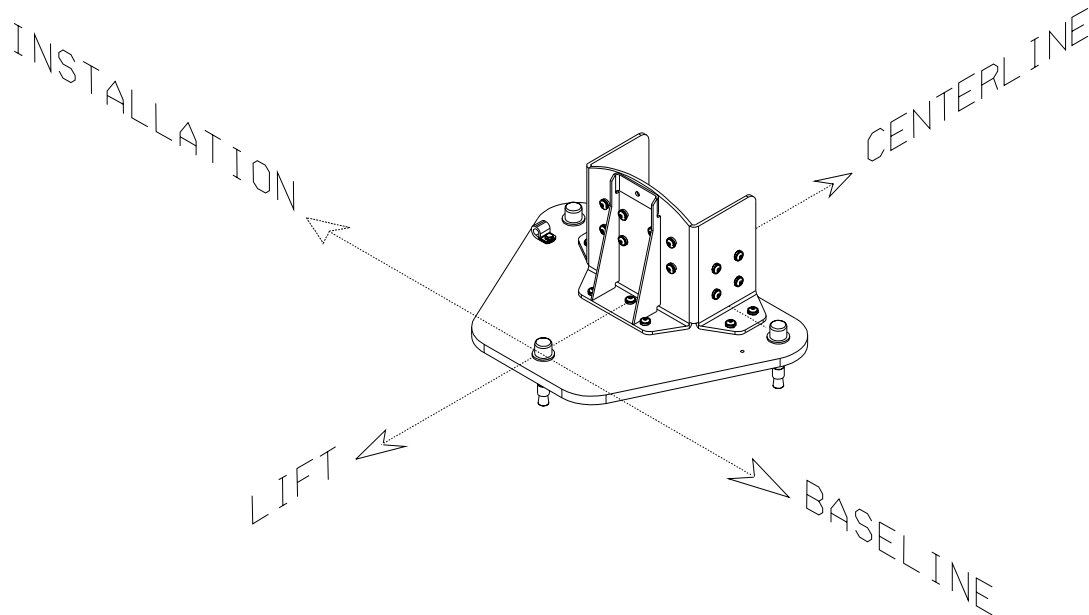

Figure 6
1. Loosely assemble eight (8) T-nuts onto the support bracket. Note the location of nut extrusions, they should face away from the support. Refer to Figure 6 for orientation. Do not tighten screws at this time.
2. Mount Support Bracket/T-nut assembly onto base plate as shown in Figure 6 and secure using seven (7) 5/16-18 cap screws. Snug but do not tighten, hardware will be tightened when support column is placed onto the base.